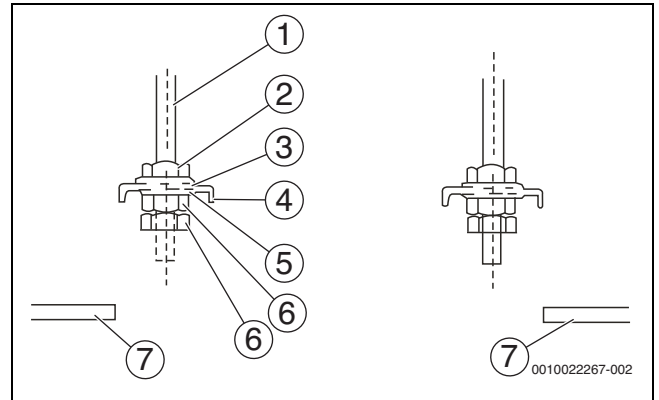

Fig. 86
1. Adjust the positions of the nuts. The size of the gap between the washer (bottom) and the ceiling should be based on the actual construction works (→ figure 86).